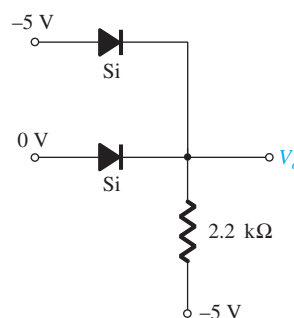

FIG. 2.165
19. Determine V_o for the negative logic AND gate of Fig. 2.165.